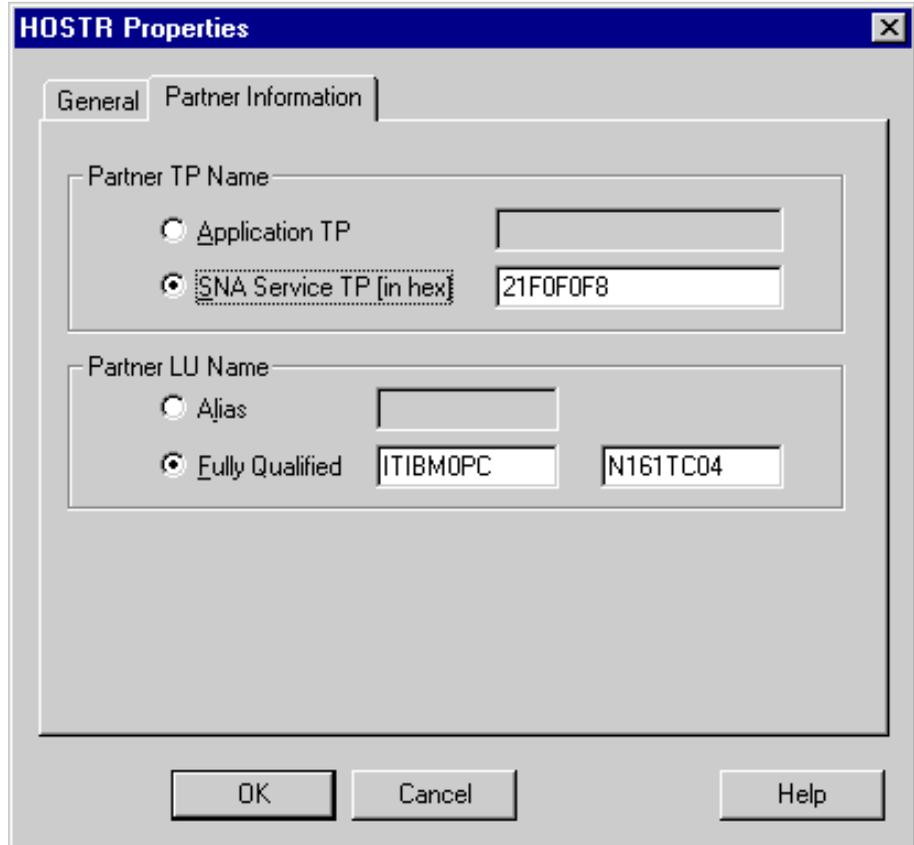

Figure 61. Configuring CPIC properties: partner information page for HOSTR
- 6 On the Partner Information page, enter the same values that are shown in Figure 61.